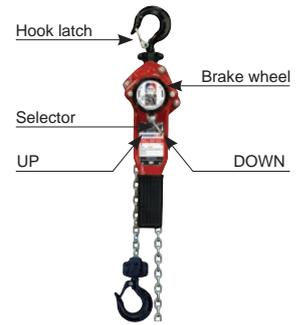

Fig. 2 Description
**Pulling through the unloaded chain** (see Fig. 2)